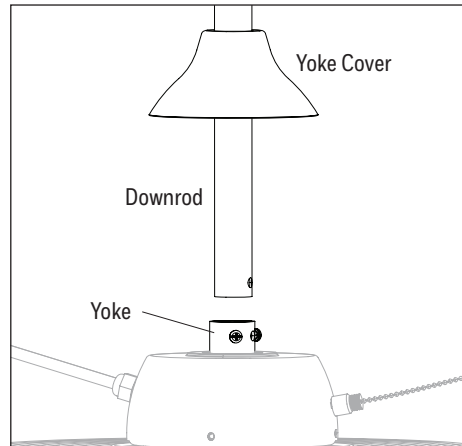

Figure 1.2
2. Loosen but do not remove the two set screws in the yoke of the motor assembly. Insert the downrod through the yoke cover and insert the downrod into the yoke (Figure 1.2).